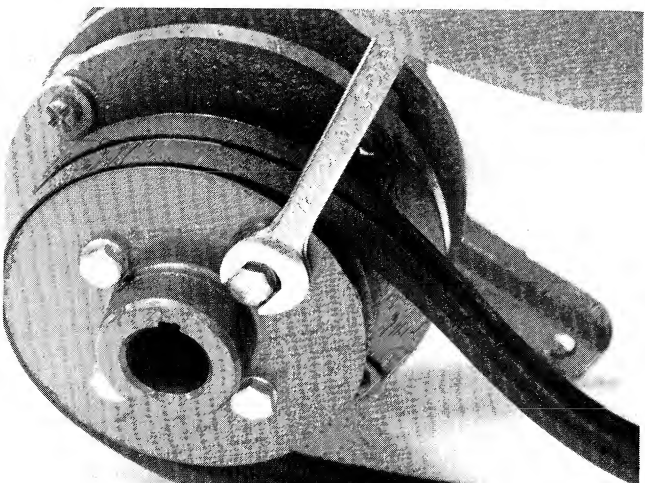

FIGURE 22. REMOVE CAP SCREWS
2. Remove the four cap screws on the inside of the pulley. See Figure 22.